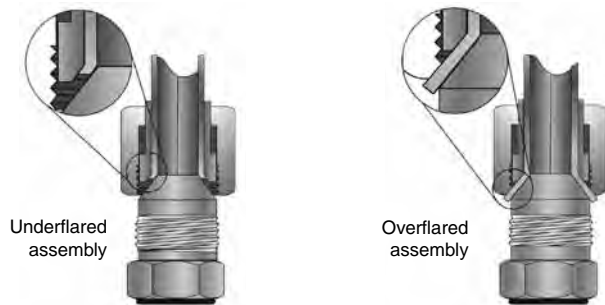

Fig. S30 – Underflaring and overflaring
**Underflaring** (see Fig. S30) reduces contact area causing excessive nose collapse and leakage; or, in extreme cases, tube pull out under pressure.
**Overflaring** (see Fig. S30) causes tube nut thread interference, either preventing assembly altogether, or giving a false sense of joint tightness resulting in leakage.